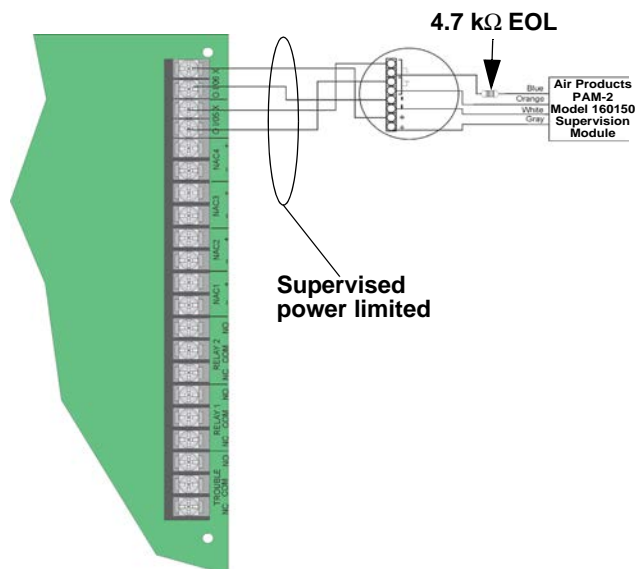
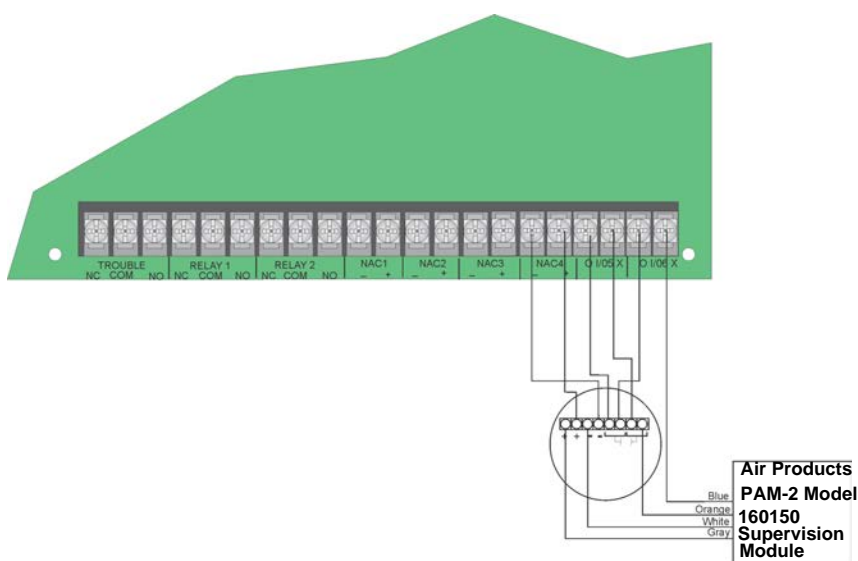

Figure 4.49 Class B 4-Wire Smoke Detector Connections
Figure 4.50 Class A 4-Wire Smoke Detector Connections
Any compatible UL listed four-wire smoke detector can be used with the control panel (see Appendix A for list of compatible smoke detectors). Figure 4.49 and Figure 4.50 illustrate how to connect a UL listed four-wire detector to the control panel.
Figure 4.49 illustrates how to install a 4-wire Class B smoke detector.
2. The Class B loop input is paired with a unique power source as shown in Figure 4.49.
NOTE: In programming any point that uses multiple Flexput circuits, the lowest Flexput circuit number is used to refer to the circuit pair. In this example, Figure 4.49 uses both Flexput circuit 5 and 6, so in programming it would be referred to as point 5.
Figure 4.50 illustrates how to install a 4-wire Class A detectors.
2. Smoke power is supplied to each Class A loop as shown in Figure 4.50.
NOTE: In programming any point that uses multiple Flexput circuits are always referred to as the lowest Flexput circuit number used. In this example, Figure 4.50 uses Flexput circuits 5, 6 together with NAC 4. In programming (4, 5, 6) would be referred to as point 5.